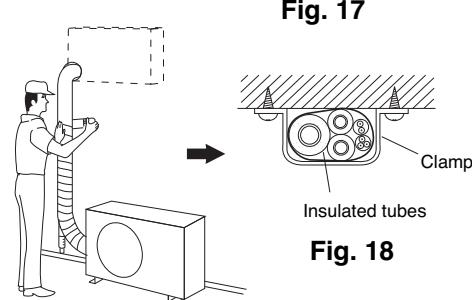

Fig. 18
- Wrap the armoring tape from the bottom of the outdoor unit to the top of the tubing where it enters the wall. As you wrap the tubing, overlap half of each previous tape turn. (Fig. 18)